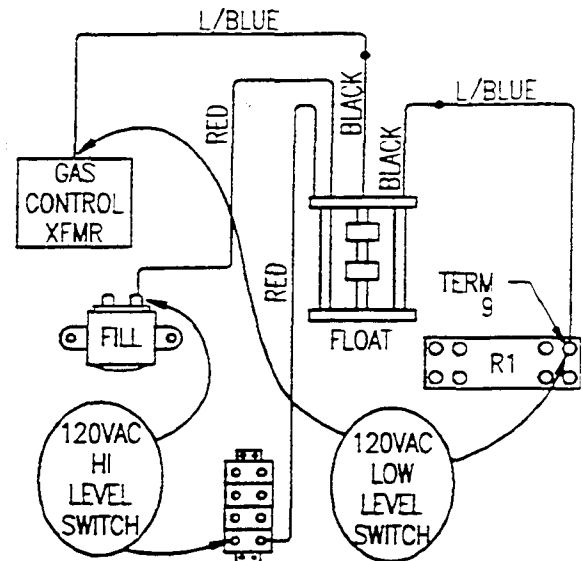

Figure 6-17. Float Assembly and Components
- For model 24-CGA-10, refer to Figure 6-17 and connect the voltmeter leads to the L/BLU wire connections at the gas control transformer and R1 terminal 9.